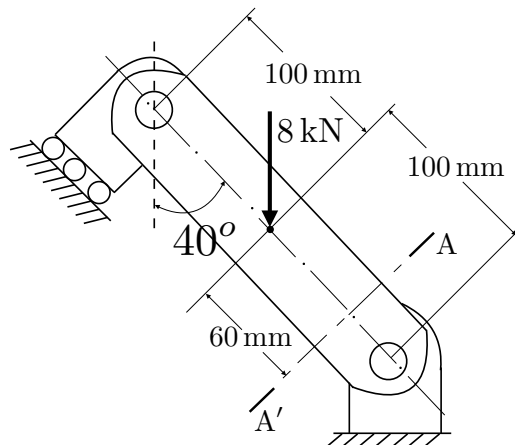

Figure 2: A Member Subjected to a Point Load
3. Determine the reaction at the roller joint and the internal axial force at the section AA' for the member in Figure 2.